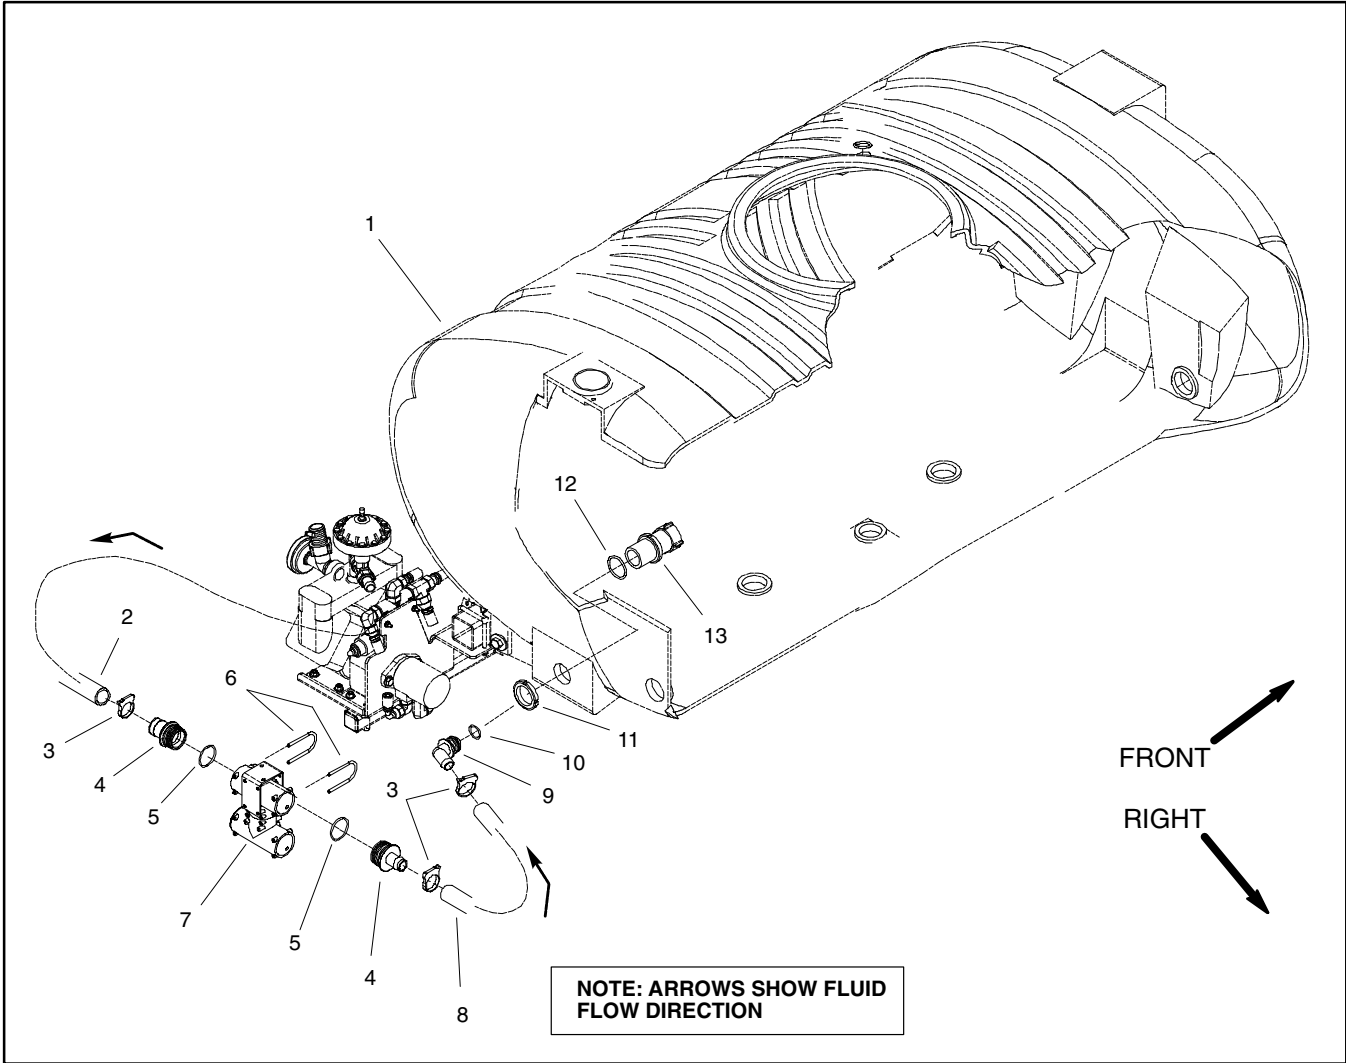

Figure 15
Removal (Fig. 15)
4. Remove pressure relief valve from spray tank using Figures 15 and 16 as guides. Discard all removed o-rings and gaskets.
Assembly (Fig. 15)
2. Install pressure relief valve using Figures 15 and 16 as guides. Replace all removed o-rings and gaskets.